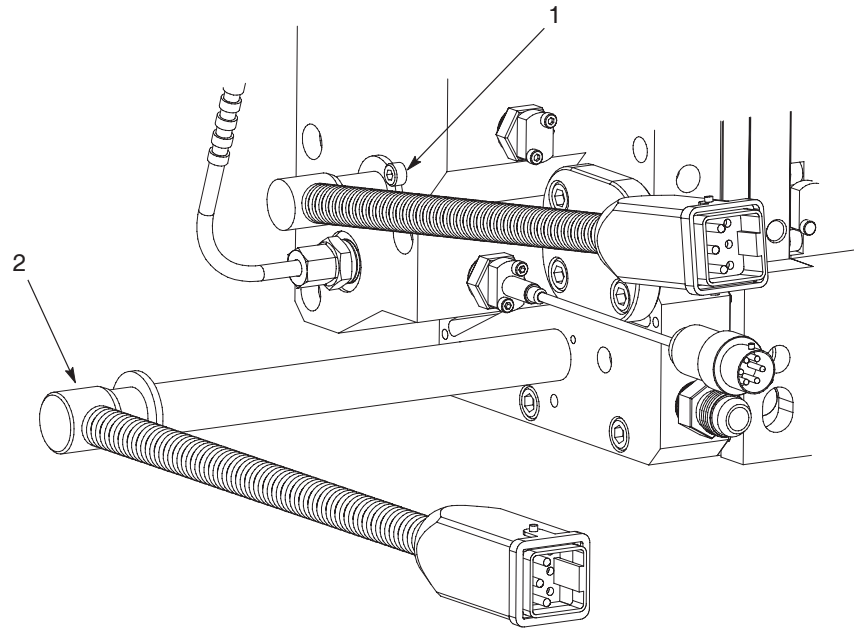

Figure 7-1 Removing a heater
3. See Figure 7-1. Using an M3 hex wrench, remove the screw (1) that secures the heater to be replaced and then carefully remove the heater (2).